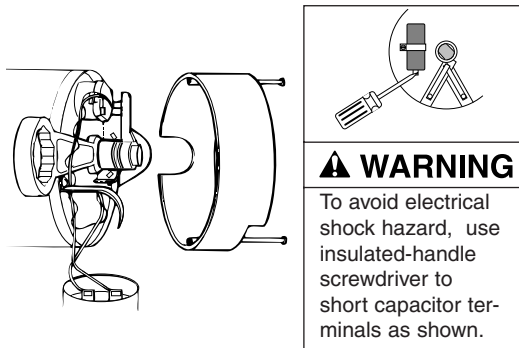

Figure 24 – Hold Shaft
Step 10. Hold motor shaft with 7/16" open end wrench on shaft flats (Figure 24) and screw impeller onto shaft. **Be sure you do not touch capacitor terminals with body or any metal object.** Tightening impeller will automatically locate seal in correct position.